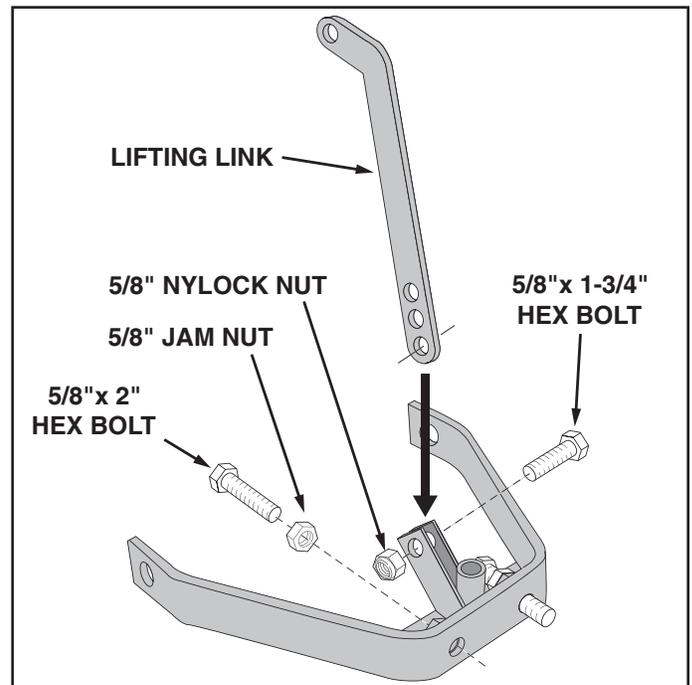

FIGURE 5
- Assemble the two  $\frac{5}{8}$ " jam nuts halfway onto the two  $\frac{5}{8}$ " x 2" hex bolts. Screw the bolts into the nuts that are welded to the Sleeve Hitch Lift Assembly. Tighten the jam nuts against the welded nuts. See figure 5.
- Assemble the lifting link to the Sleeve Hitch Lift Assembly using a  $\frac{5}{8}$ " x 1-3/4" hex bolt and a  $\frac{5}{8}$ " nylock nut. Use the bottom hole in the lifting link (gives the lowest implement depth setting). Tighten the nut only until snug. Do not squeeze the welded arms together. See figure 5.
2. Attach an implement using the sleeve hitch pin. Tighten the 5/8" x 2" stabilizer bolts against the implement hitch and then tighten the jam nuts. See figure 5 on page 4.